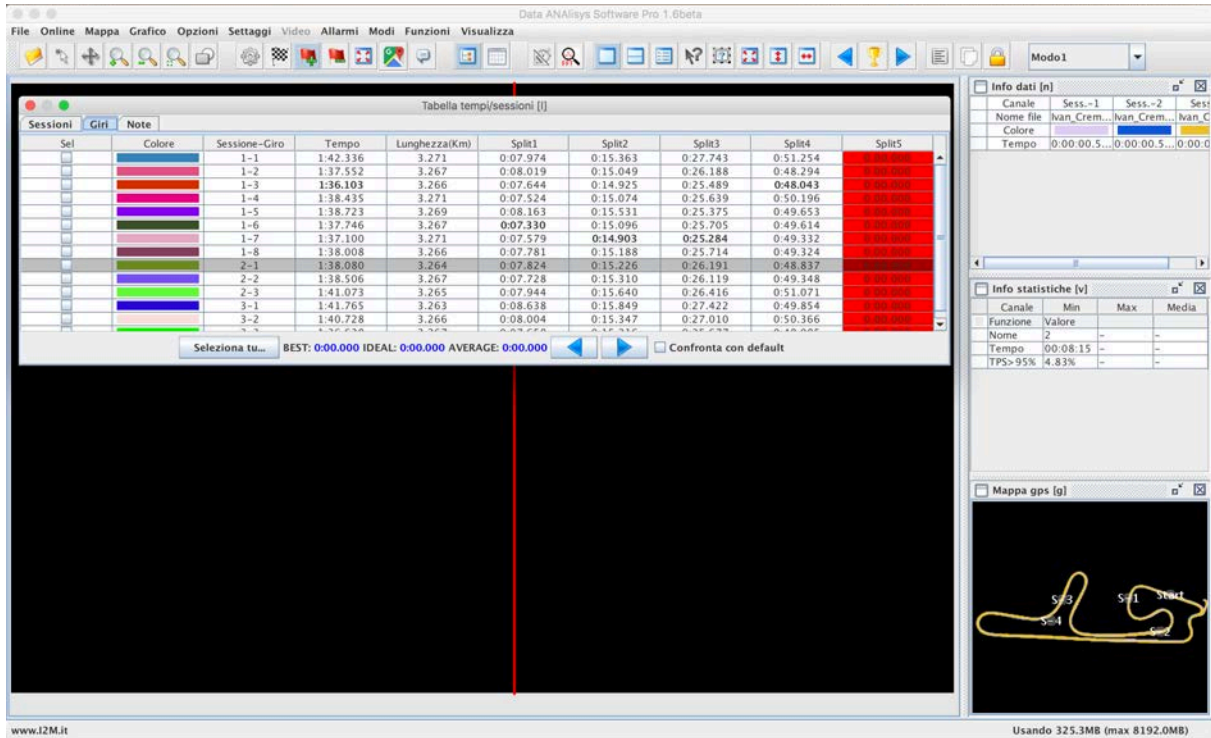

Fig. 14- Split n.3 is in the wrong place.
- **Add split:** this function allows you to add splits on the circuit. Splits must be crossed by all the laps and they must be placed in the correct order (i.e. do not place split n.3 spatially before split n.2, for example). In the Sessions/Laps table, one column for each split will be automatically added. In case the split point does not belong to all laps or if it is in the wrong position, the corresponding field in the table will be highlighted in red as shown in figure 14.